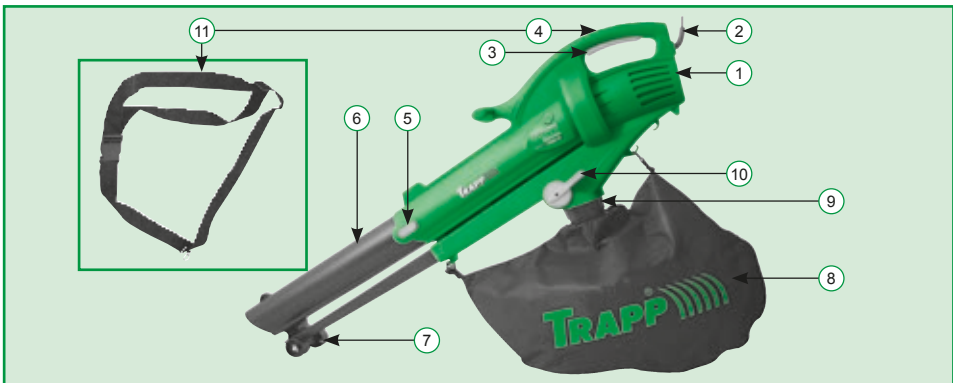

Figure 1
The blower/vacuum is provided with a shoulder strap (Figure 1, item 5 and 12), to reduce fatigue and provide comfort during the use of the blower/vacuum; it can be used in whichever way it suits the operator. Assemble it by clipping the shoulder strap metal buckle (h) to the upper part of the blower/vacuum main body, as shown in figura 6.
Release the hand that presses the switch trigger (Figure 1, item 3) and the blower/vacuum will stop.